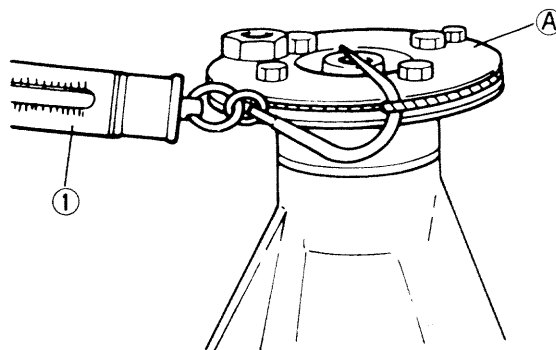

Fig. 16-23 ① Spring balance
The bevel pinion, as installed in normal manner in carrier, is required to offer a certain torque resistance when checked by using prescribed preload adjuster (special tool ①) as shown in Fig. 16-23. This resistance is a "preload," which is due to the tightness of the two tapered roller bearings by which the pinion is held in the carrier. And this tightness is determined primarily by tightening torque of bevel pinion nut. Adjust preload of bevel pinion bearings as follows.
- Adjust preload on side bearing during back-lash adjustment: mount special tool on drive bevel pinion as shown in Fig. 16-23 and measure using spring balance ①. If reading at the instant bevel gear starts moving is within the range given below, side bearing preload is acceptable. Referring to the graph, for example, when the drive bevel pinion bearing preload measured as shown in Fig. 16-23 is 2.6 kg (5.73 lb), drive bevel pinion bearing preload (kg) + bevel gear side bearing preload (kg) should be 2.8 – 3.2 kg (6.17 – 7.05 lb).